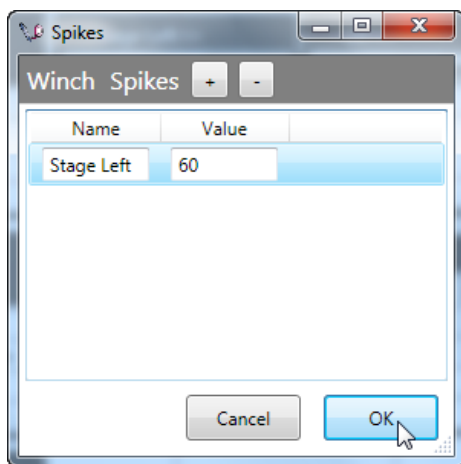

Figure 215
7. Enter a meaningful **Name** and the Spike position **Value**. Select the Spike and click **OK** (Figure 215).